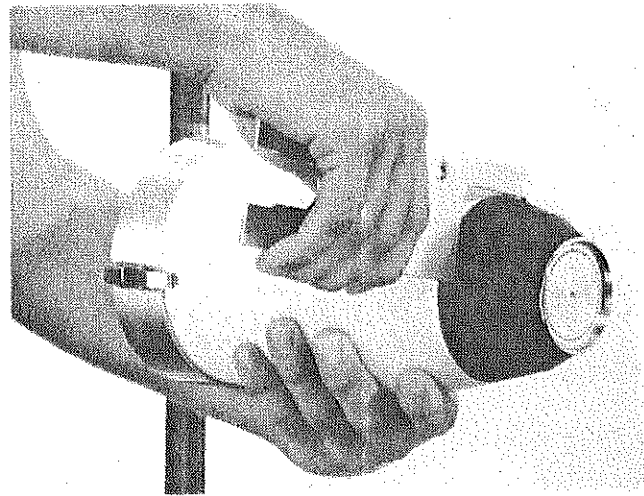

FIG. 2
3. Remove RPM-4 shaping air cap from shroud using RPM-419 wrench. Turn CCW (Fig. 2). Note the RPM-5 shaping air ring will come off with the RPM-4.